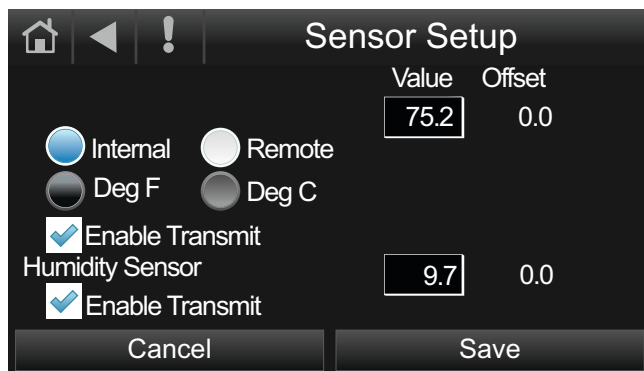

Fig. 14 — Sensor Setup — Enable Transmit Selection
3. Select the check box 'Enable Transmit' for both 'Temperature Sensor' and 'Humidity Sensor' (see Fig. 14).